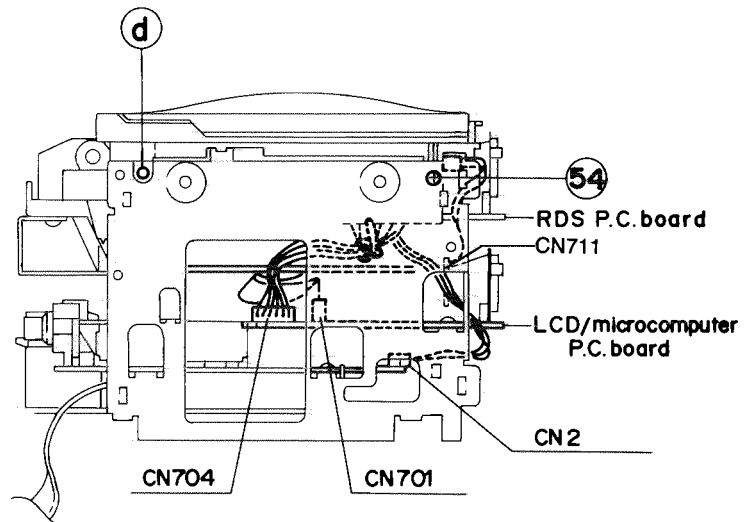

Fig. 7 – 14
■ LCD Microcomputer P.C. board (Fig. 7 – 15)
2. Remove the three screws (20) retaining the LCD/microcomputer P.C. board from the chassis.